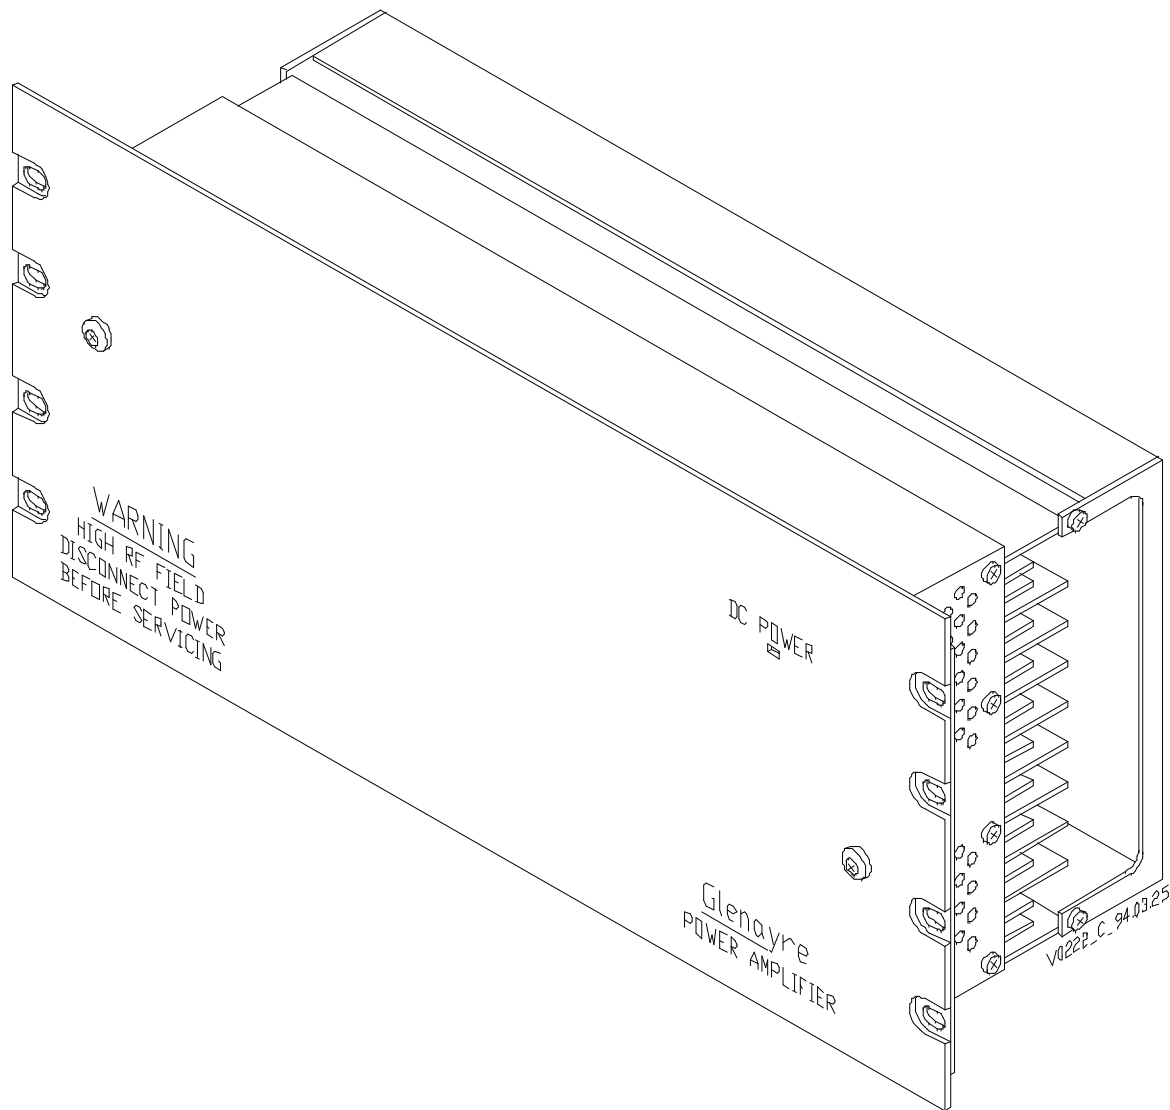
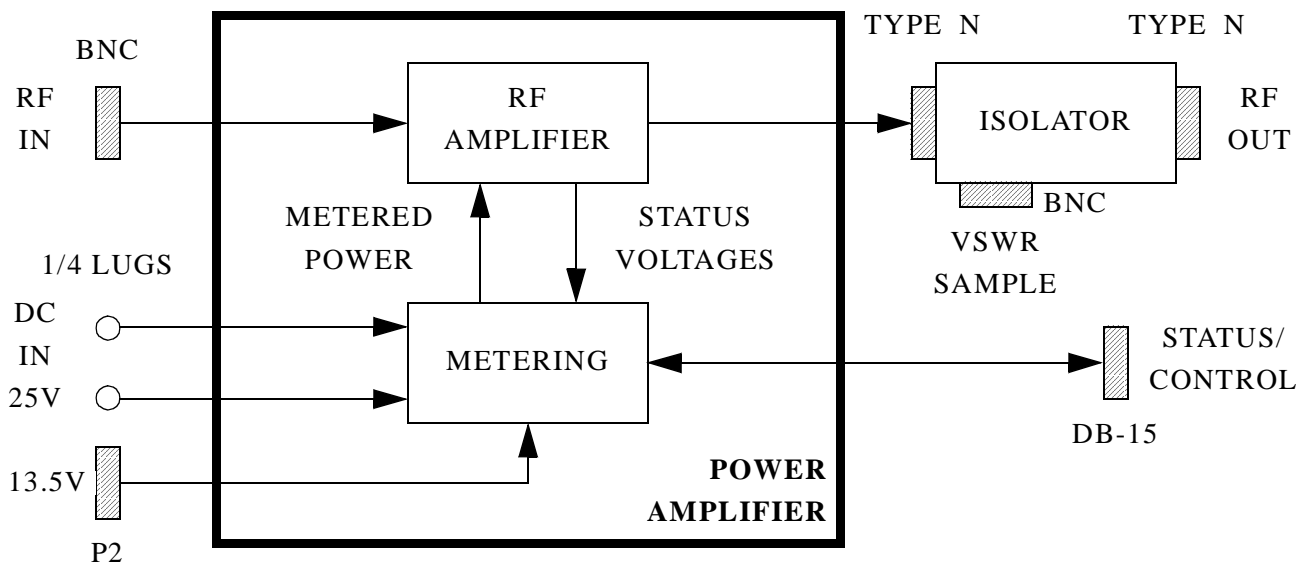

Figure 3-1 250-Watt, 900-MHz Power Amplifier
Figure 3-3 PA Simplified-Block Diagram
Figure 3-1, 250-Watt, 900-MHz Power Amplifier Front View, and Figure 3-2, 250-Watt, 900-MHz Power Amplifier Rear View, show the Gold Line power amplifier (PA). This is a 250-watt PA intended for use in a GL-T8500 paging transmitter with an RF of 900 MHz nominal. This PA is characterized by integrated monitoring devices that supply critical status information to a Gold Line exciter/PA control (exciter). This exciter contains diagnostic software that can detect and report a faulty PA circuit board.
Figure 3-3 shows a simplified, functional diagram of the PA. The driver, combiner, and PA boards constitute the RF amplifier circuitry of the PA. Monitoring and controlling this RF amplifier is the metering board. *Figure 3-1* shows the RF amplifier, isolator, and metering circuitry within the PA.